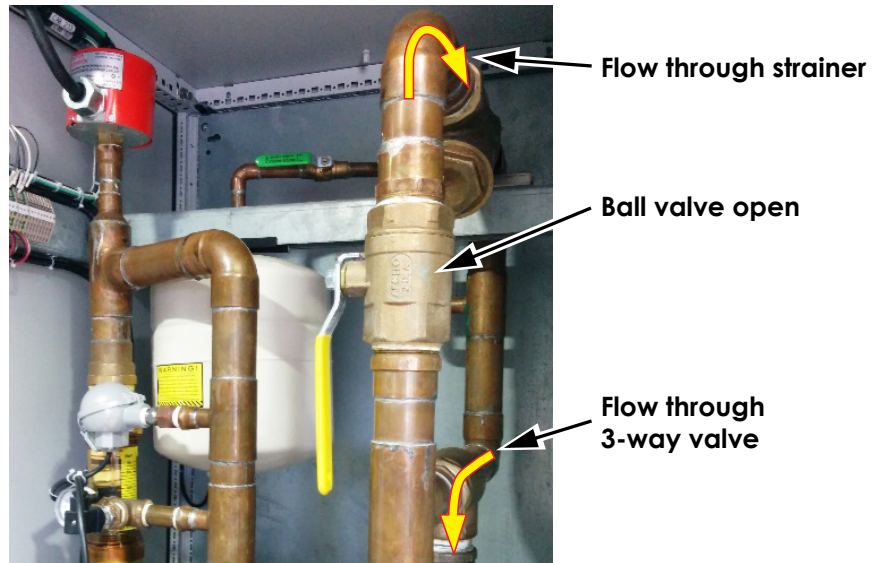

Figure 4: Ball valve open
9. Ensure that ball valve at inlet of strainer is in the open position and the 3-way valve directs fluid through the strainer. See Figure 4.